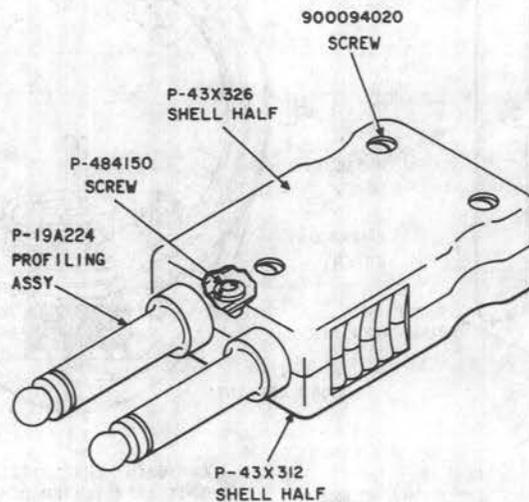

Fig. 5—464A-50 Plug
4.06 464A-50 Plug (Fig. 5): To replace the 464A-50 plug, proceed as follows: